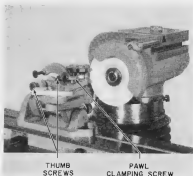
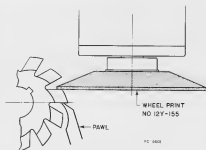

Figure 56B
Figure 57C
Grinding Form Relieved Cutters. The only correct way to sharpen form relieved cutters is to grind the *face* of the teeth (Figures 56B and 57B). To accomplish this result, it is necessary that the feed or adjustment of the cutter to the grinding wheel should be a *rotary or circular adjustment*, as provided for in the Cincinnati Gear Cutter Sharpening Attachment.
To set up for the first grinding operation of an ordinary formed relieved cutter, proceed as follows: (See Figure 57C).
7. Place the edge of the pawl on the face of the tooth being ground (Figure 57C) and clamp in place by tightening pawl clamping screw (Figure 56B).
9. Swivel the attachment centering gage up to the top of the attachment, and rotate the cutter by hand on the stud to bring the face of one tooth against the gage. Adjust the pawl to contact the back of the tooth just ground, and then swing the gage out of the way (Figure 56B).
11. Loosen one thumb screw and tighten the other one to rotate the face of the tooth towards the grinding wheel (Figure 56B).